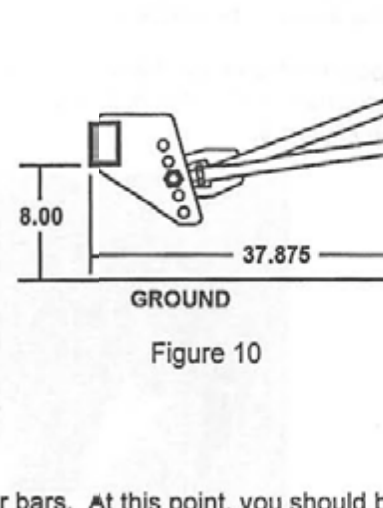

Figure 10
- 1A. **Square Tube Crossmember-** Find and mark the center of the dropped section of the crossmember. Loosely bolt the crossmember brackets, through the center hole, onto both ladder bars (one bracket on each side). Snug the nuts and bolts up enough so they stay in place. Position the ladder bars and crossmember under the car to determine the mounting position and width. Using the centerline mark, the crossmember should be centered directly under the driveshaft. **NOTE:** The distance from the centerline of the axle to the front edge of the crossmember is approximately 37-7/8". See Figure 10.